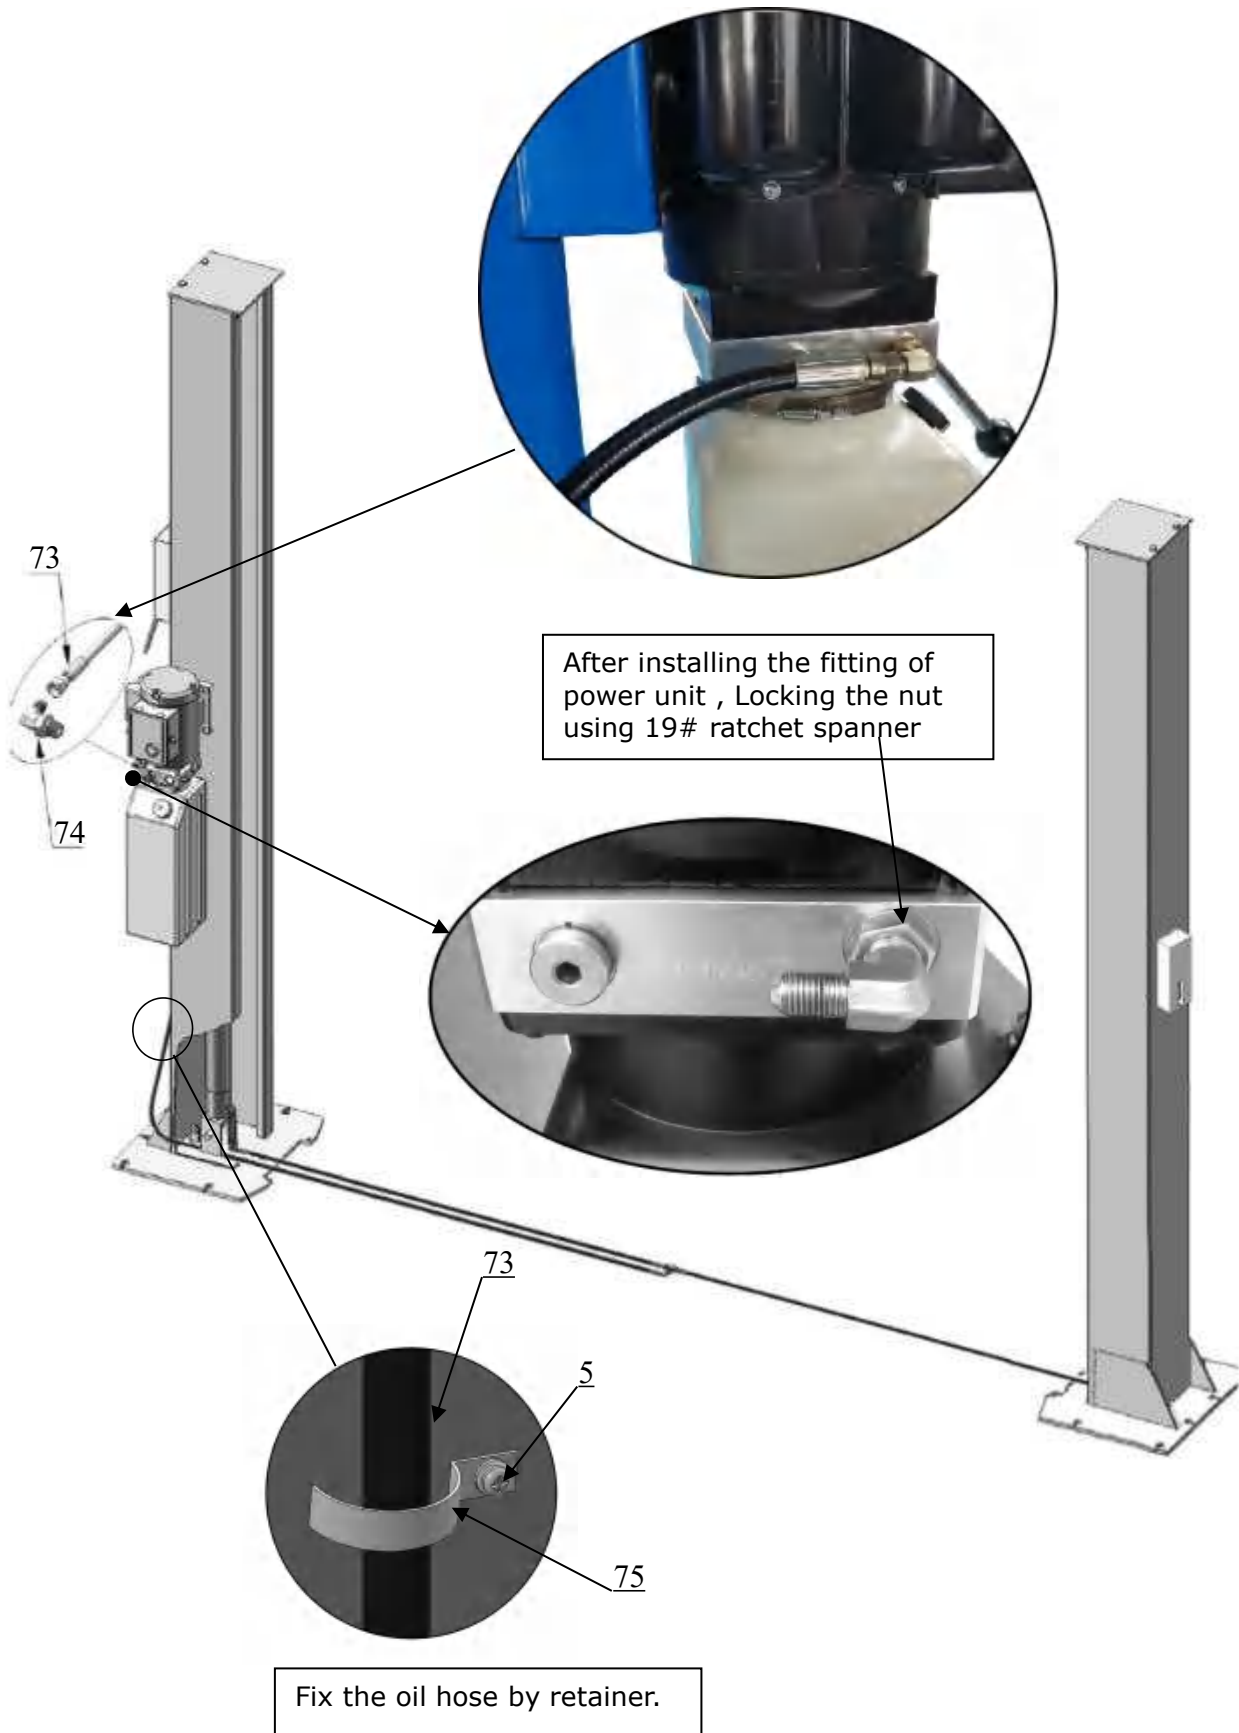

Fig.20
J. Install power unit and oil hose(See Fig. 20).